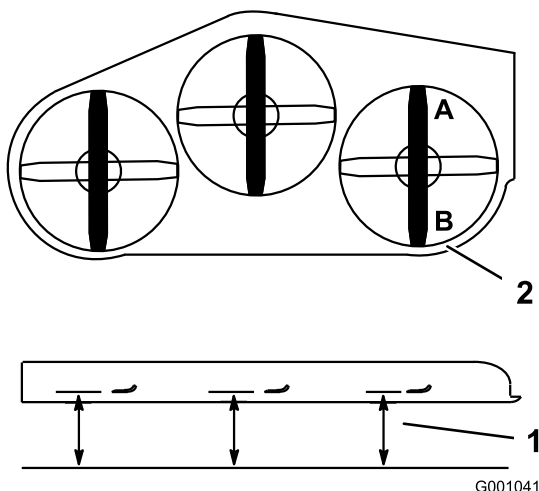

Figure 76
- Position the **right** blade front-to-rear (Figure 76).
- Measure the right blade at the **A** location, from a level surface to the cutting edge of the blade tip (Figure 76).
- Measure the right blade at the **B** location, from a level surface to the cutting edge of the blade tip (Figure 76).
- The mower blade should be a 1/4 to 3/8 inch (6 to 10 mm) lower at position **A** than at position **B** (Figure 76). If it is not correct, proceed to the following steps.